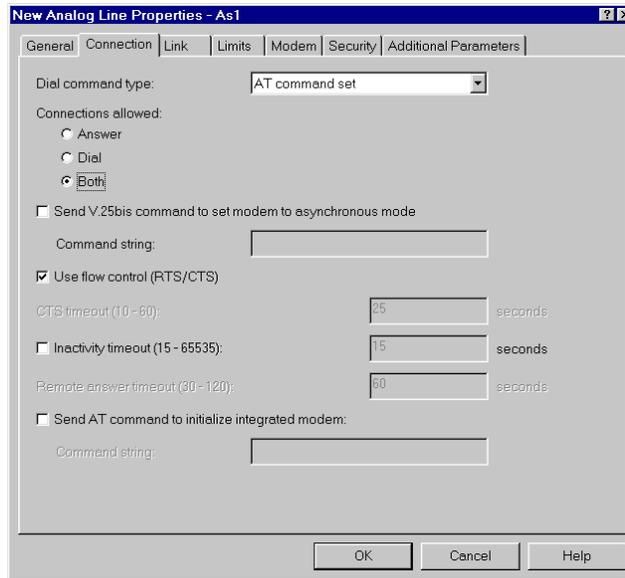

Figure 17. Setting Use flow control
5. Click the **Connection** tab (Figure 17).